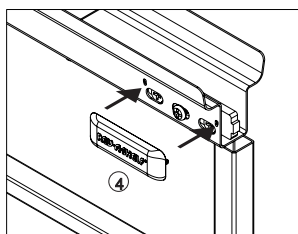

fig. 13
15) The first adjustment is the left to right tilt. Refer to figure 13. By tightening the front screw and loosening the back screw, the door will tilt out on the left. The reverse is true if you loosen the front screw and tighten the back screw, the door will tilt out on the right. Once you get this tilt adjustment correct, tighten the center screw both top and bottom. Now snap on the logo cap (#4) to cover this hardware on the top. See figure 13.